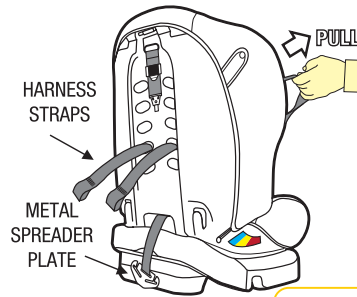

Figure 2
Step 3: Pull the shoulder harness straps through the shoulder slot holes in the seat body and cover. They are now loose in the front of the seat (refer Figure 2).